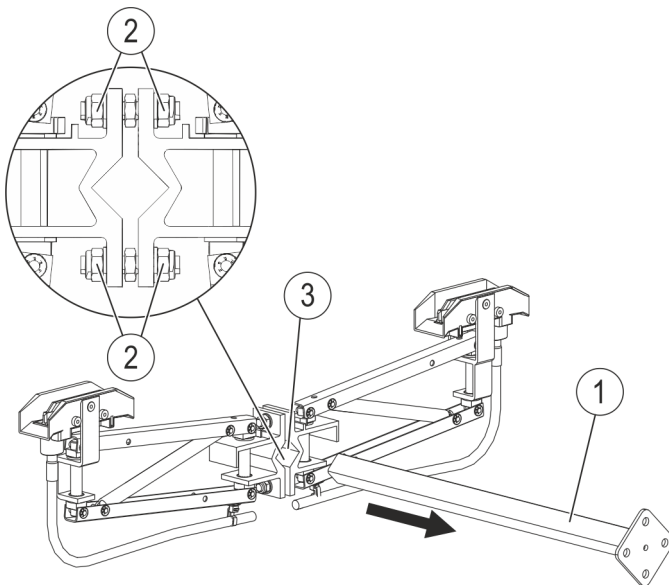

Fig. 124: Mount the towing arm
- Tension the towing arm (Pos. 1) in the middle support (square) (Pos. 3) of the current collector. The outer nuts M8 (Pos. 2) at the same time, gradually tighten alternately with an open-end SW13 wrench (torque for galvanized: **19 Nm**, torque for stainless steel: **13 Nm**) (see Fig. 124). Observe the tolerances and instructions provided above.